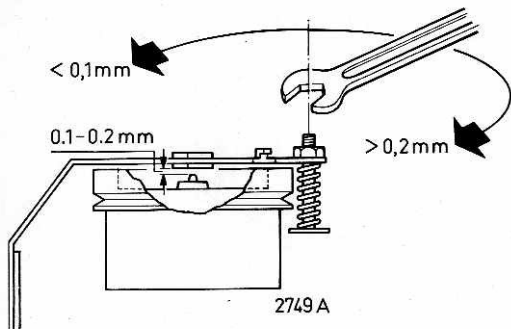
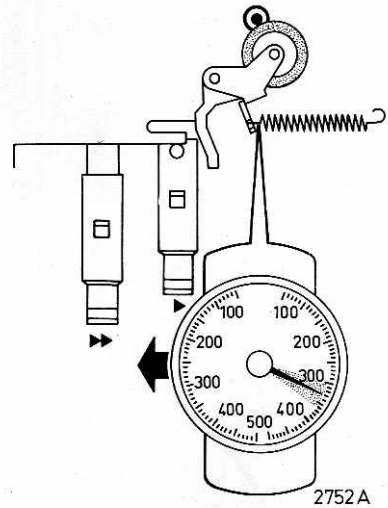

Fig. 3
Fig. 4
**4. Adjusting the flywheel bracket 503, Fig. 3****5. Adjusting the force of the pressure roller 76, Fig. 4**